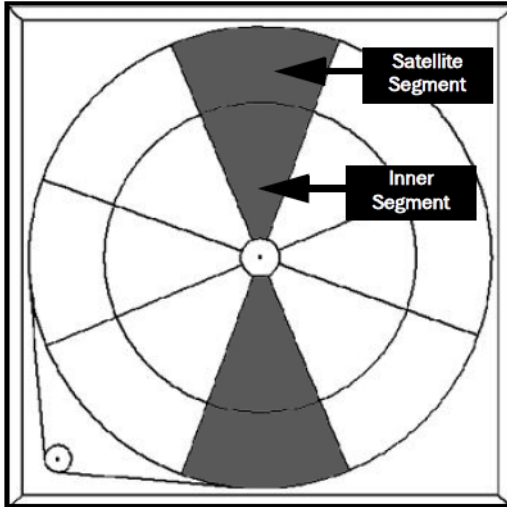

Figure 23 Remove or install opposing inner and satellite segments to minimize wheel imbalance.
- 12) Rotate wheel 180-degrees to remove opposing satellite and inner segment to restore balance, Figure 23.
- 8) Repeat previous six steps to install inner and satellite segment sets, ensuring balance throughout the procedure, Figure 23.